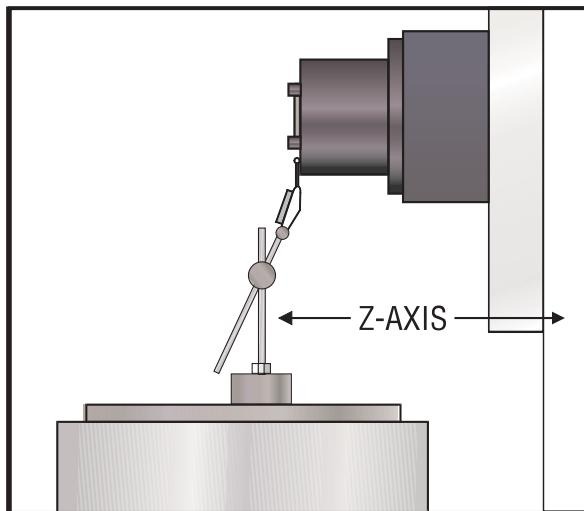

Figure 1.3-3. Dial indicator in position to check Z-axis.
1. Set up a dial indicator and base on the mill table as shown in Fig. 1.3-3.
An alternate method for checking backlash is to place the dial indicator as shown in Fig. 1.3-3 and manually push the column forward and back while listening for a 'clunk'. The dial indicator should return to zero after releasing the column.